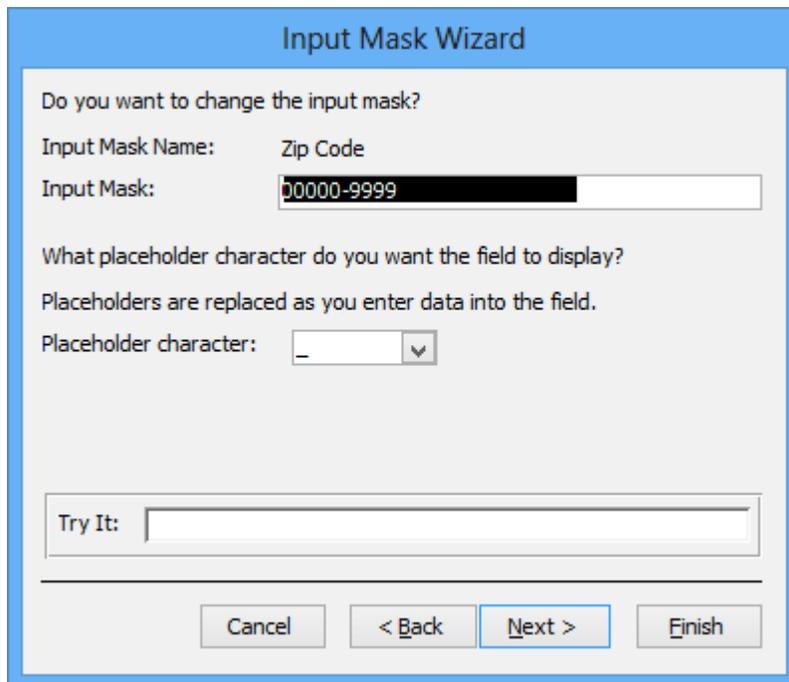

Figure 9: Change Mask Window of the Input Mask Wizard
- The next wizard window (Figure 9) allows you to make changes in the selected input mask. An example would be to put in a local default zip code. For this example, leave it alone and click the **Next** button.